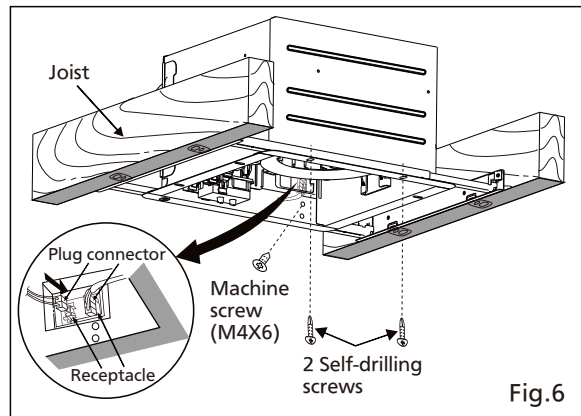

Fig.6
8. Insert fan body and slide into adaptor assy with some strength, until the flange overlaps the Flex-Z Fast™ bracket. Secure the fan body to Flex-Z Fast™ bracket by using 2 self-drilling screws, plug connector to receptacle and secure the fan body to adaptor by using machine screw (M4X6). (Fig.6)